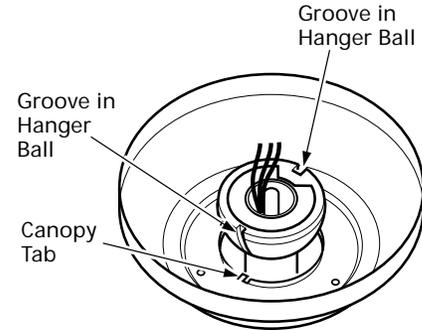

Figure 5b - Canopy Tabs and Grooves in Hanger Ball
3. **For Standard and Angle Mounting only:** In addition to sub-steps 1 and 2, lift the fan housing towards the ceiling and rotate the fan until each canopy tab engages a groove in the hanger ball as shown in Figure 5b.